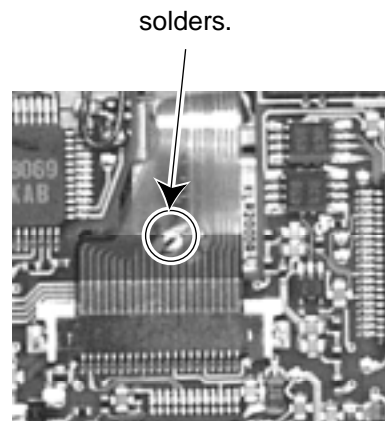

Fig 2
1) Please be sure to solder before a flexible wire is removed from connector CN301 on a main printed circuit board as shown in Figure 2.